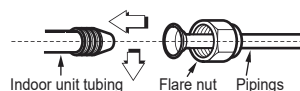

Fig.5-3
- Sufficiently tighten the flare nut (See Fig.5-3)